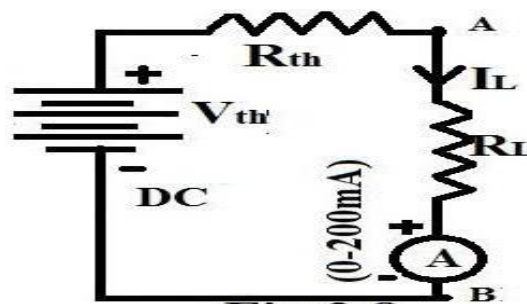

Fig:2.8
4. Verify the Thevenin's Theorem by finding the load current with Thevenin's Equivalent circuit as Shown in Fig: 2.8